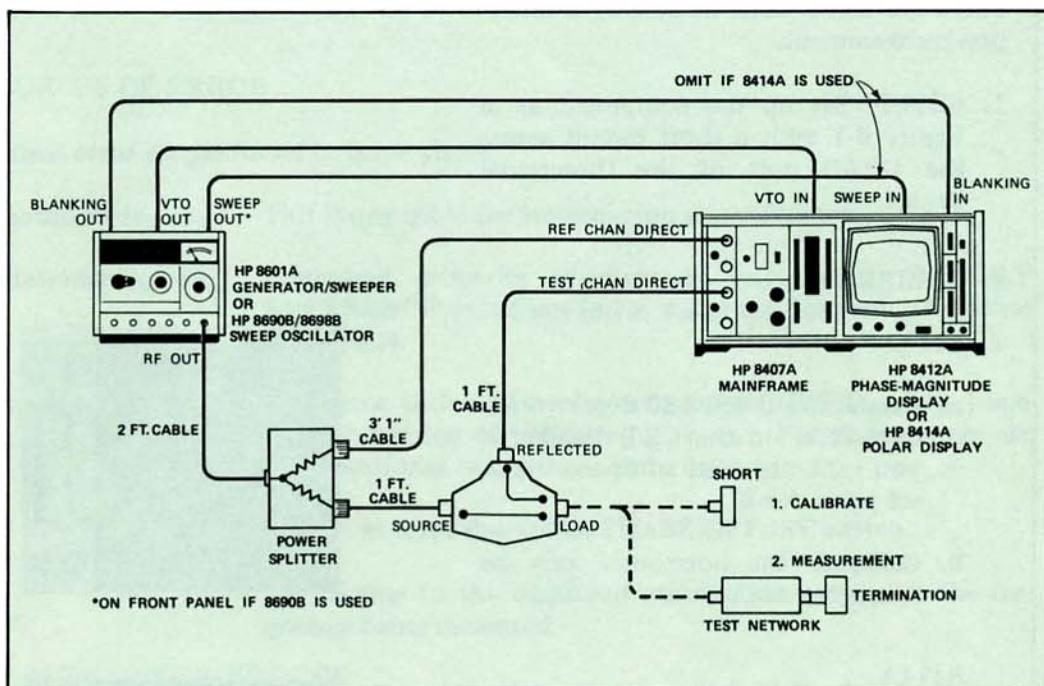

Figure 6-1. Basic Setup for Reflection Measurements
1. SETUP. Set up the equipment as in Figure 6-1 with a short circuit across the LOAD port of the Directional Bridge.
1. Set up the equipment as shown in Figure 6-1. Be sure you have placed the three foot cable between the power splitter and the REF CHANNEL input, a one foot cable between the REFLECTED port of your directional bridge and the TEST CHANNEL input, and a one foot cable between the other arm of the power splitter and the SOURCE input of the directional bridge. This is to ensure proper phase matching between the two channels.
Insert the test device at point A in Figure 6-1.